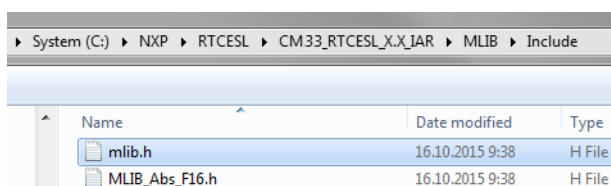

Figure 1-32. Add Files dialog
5. Navigate into the library installation folder C:\NXP\RTCESL\CM33F_RTCESL_4.6_IAR\MLIB\Include, and select the *mlib.h* file. (If the file does not appear, set the file-type filter to Source Files.) Click Open. See Figure 1-32.